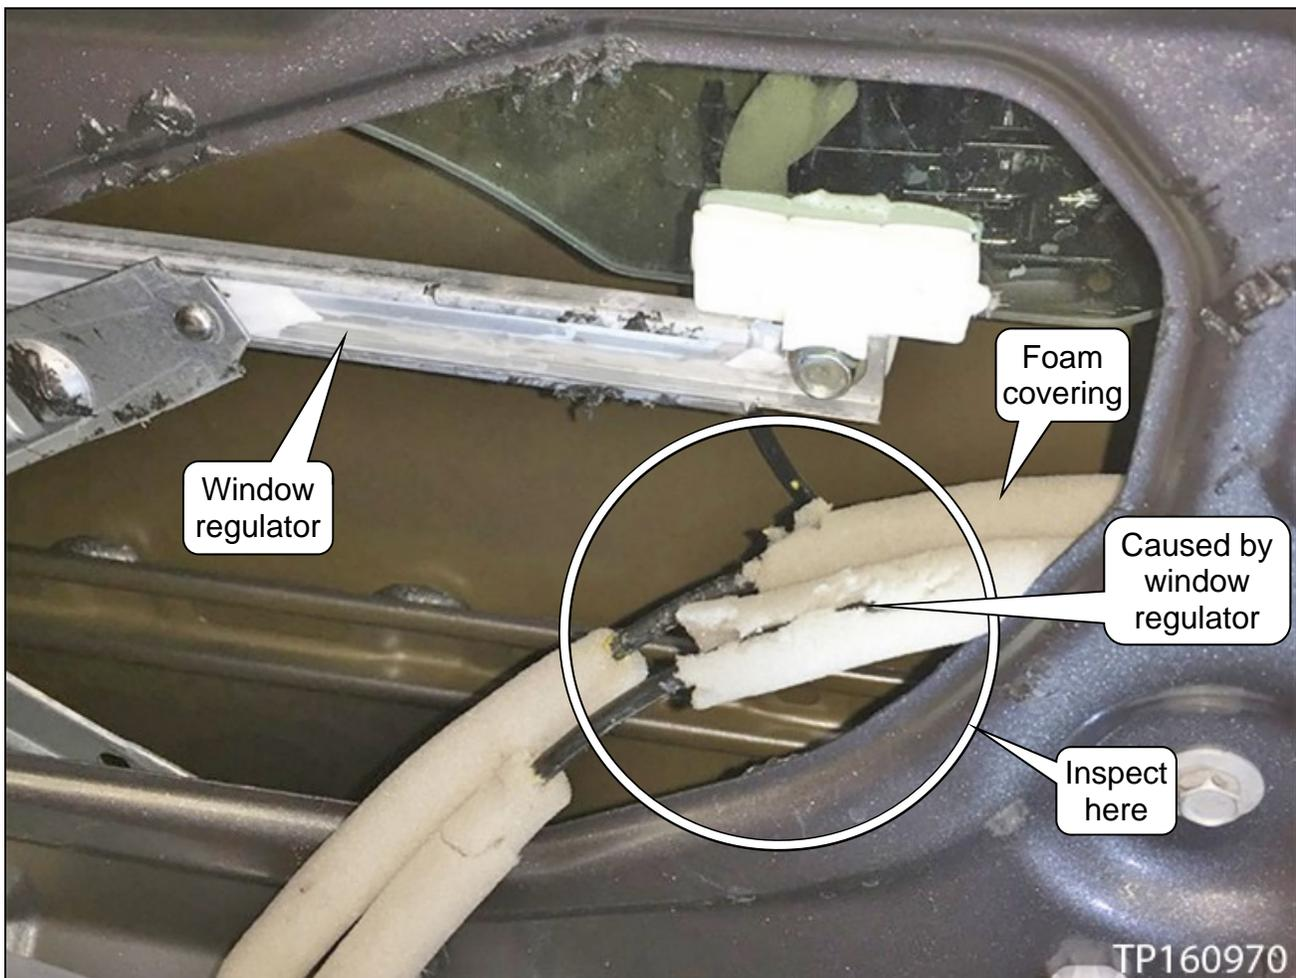

Figure 15
1. Inspect the foam covering on the cables for damage (see example in Figure 15).